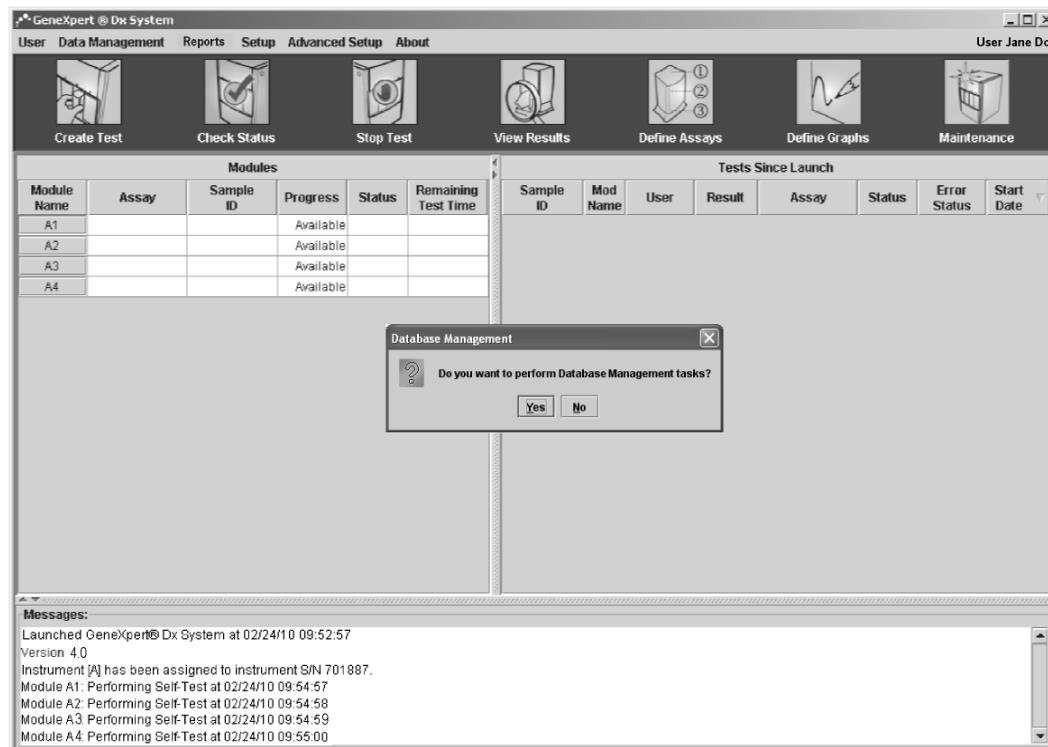
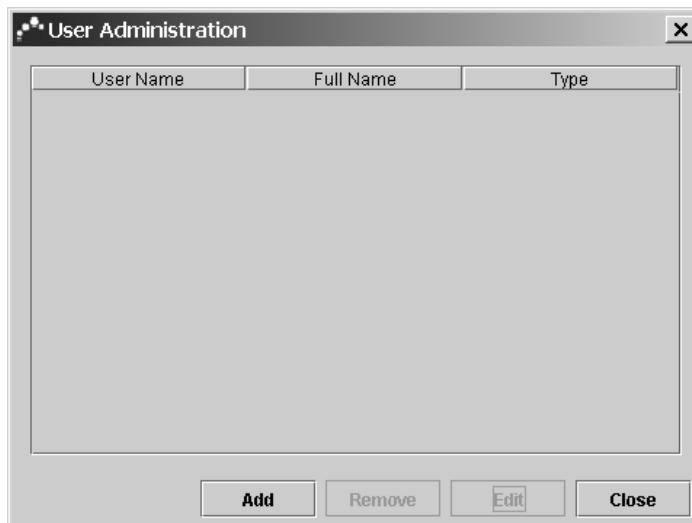

Figure 2-15. GeneXpert System window—Database Management dialog box
Figure 2-21. User Administration dialog box
The Assign Instrument Letter dialog box disappears (Figure 2-15).
3. To view the letter assignment at any time, in the GeneXpert Dx System window (Figure 2-15), on the Setup menu, click **Assign Instrument Letter**.
Figure 2-15 is an example of the GeneXpert System window after assigning instrument letters to a GX-IV R2.
The Database Management dialog box appears on top of the GeneXpert Dx System window (Figure 2-15).
Before you start to use the GeneXpert Dx System software, you should define the GeneXpert Dx System administrator and other system users. All the administrator functions are accessible from the Setup menu in the GeneXpert Dx System window (Figure 2-15).
1. In the GeneXpert Dx System window (Figure 2-15), on the Setup menu, click User Administration. The User Administration dialog box appears (Figure 2-21).
1. In the User Administration dialog box (Figure 2-21), in the **User Name** column, select the user you want to edit.
To remove a user, in the User Administration dialog box (Figure 2-21), select the user, and then click **Remove**. Click **Close** to save the change and close the dialog box.